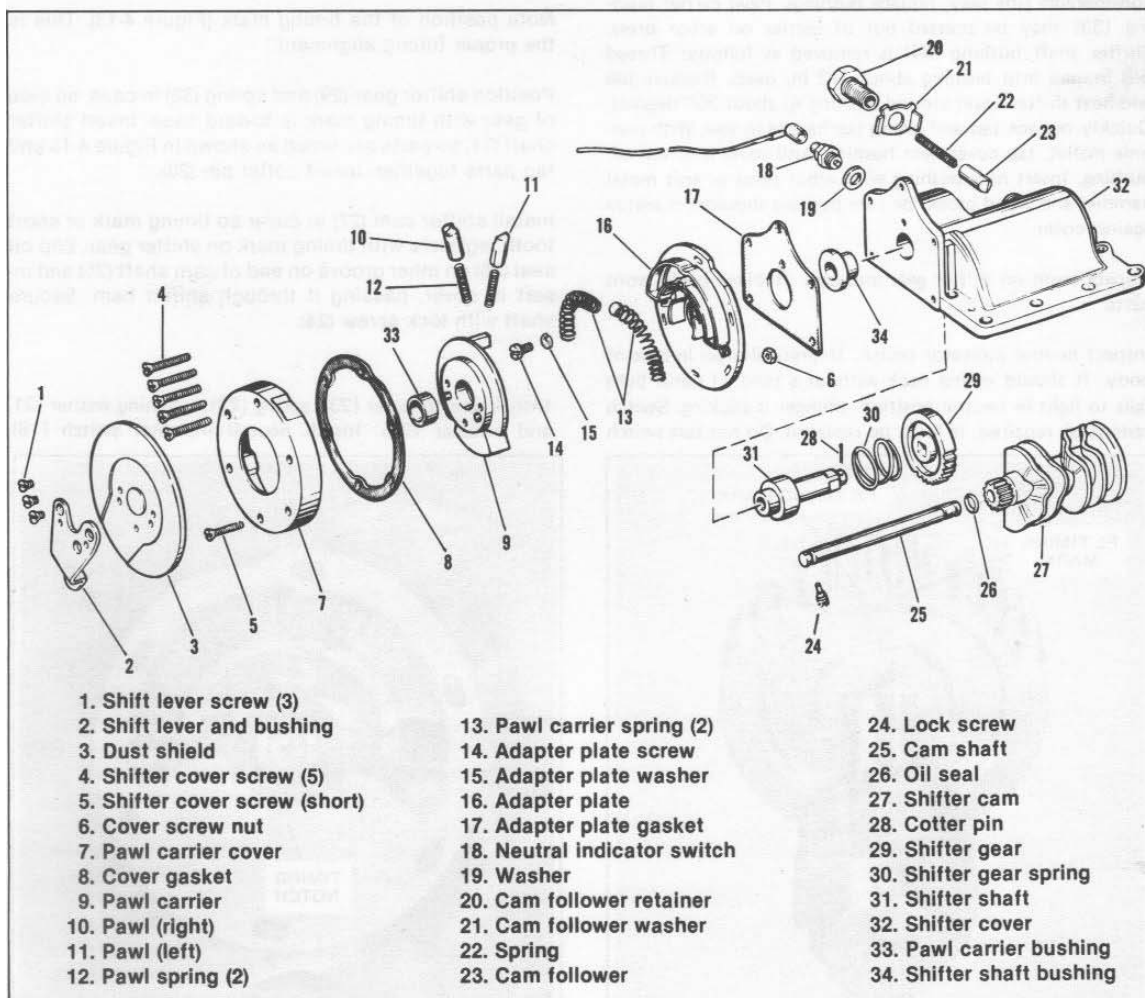
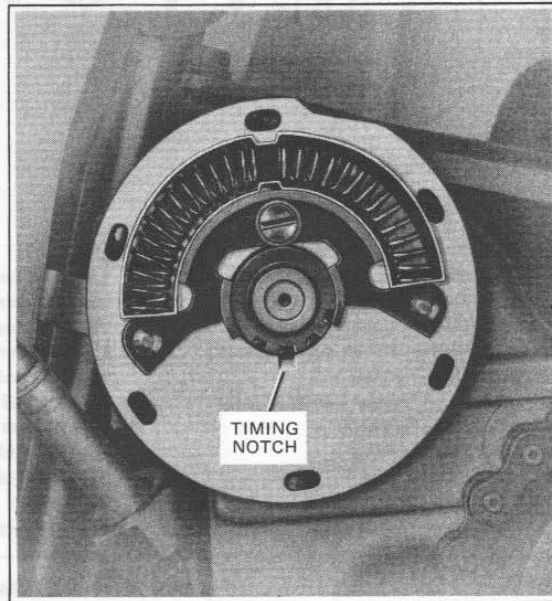

Figure 4-12. Foot Shifter Cover — Exploded View
Figure 4-14. Timing Shifter Notches
Disassemble shifter cover parts 1 through 12 as described in "Disassembling Shifter Cover," see Figure 4-12. Time shifter notches as illustrated in Figure 4-14. Loosen screw (14, Figure 4-12) and rotate adapter plate (16) until timing notch (Figure 4-14) in adapter plate, located at bottom of shifter gear hole, lines up with notch between two shifter gear teeth. Make alignment exact, then tighten adapter plate bracket screw to lock in position. This adjustment can be made with shifter in any gear (not neutral).
CLEANING, INSPECTION AND REPAIR (Figure 4-12)
ASSEMBLING SHIFTER COVER (Figure 4-12)
Rotate adapter plate until timing notch (Figure 4-14) in adapter plate, locked at bottom of shifter gear hole, lines up with notch between two bottom shifter gear teeth. Make alignment exact, then tighten adapter plate bracket screw (14).